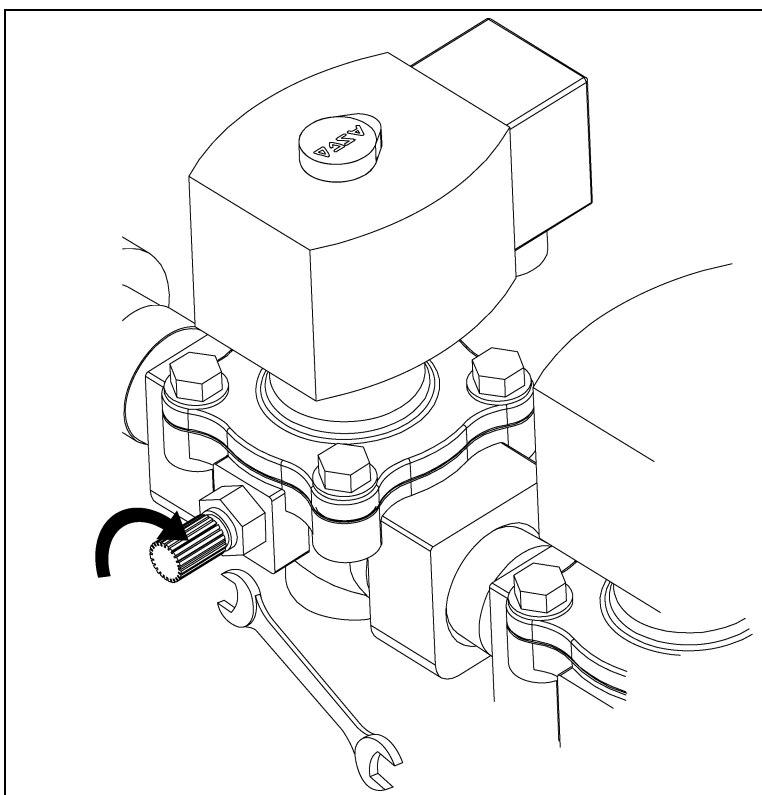

Figure 5V
5. Lock cycle valve adjuster. (*See Figure 5V.*)